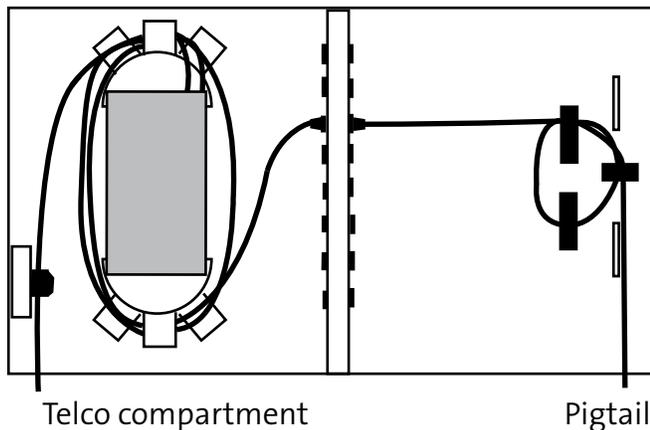

Figure 18
Step 3: Once splicing is complete, route cable slack around the plastic guides inside the telco compartment (Figure 18) and secure the splice tray (and mounting bracket) into the unit. Be careful to avoid making bends tighter than the cable's recommended bend radius.